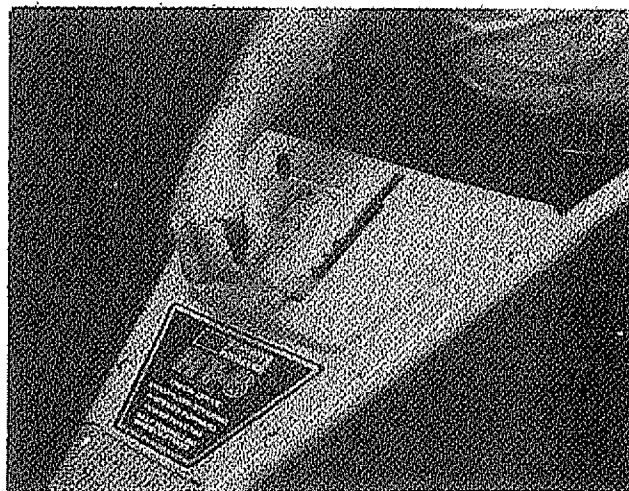

FIGURE 16.
- A. Forward (1 thru 5)—Move the lever to the left and forward for each gear. See figure 16.